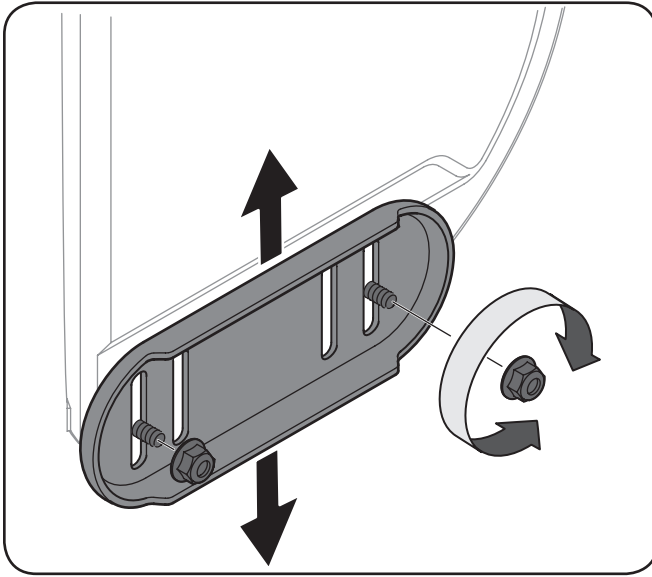

Figure 3-13
1. Loosen the four hex nuts (two on each side) and carriage bolts. Move skid shoes to desired position. See Figure 3-13.